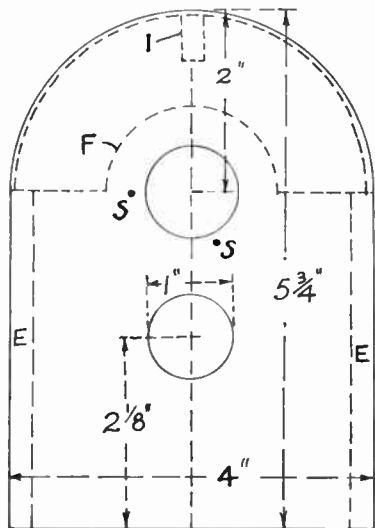

Fig. 3—Dimensions of the front and back
The front and back of the box are identical in size and shape, and the sizes are shown in Fig. 3. Note, however, that one piece—the front—has two openings cut in it as in the diagram, but the back had only a slot cut in it, being located near the top and measuring about 1 in. long by nearly $\frac{1}{4}$ in. wide. Both openings in the front are made 1 in. in diameter,
In Fig. 4 the disc (H) is shown drawn away from the disc, but ready to be attached to it. Now note from Fig. 3 where the two 'stop' screws (S) are to be inserted. They prevent the figure from turning too far in either direction, and when the opening in the front of the box is wholly exposed, the figure should
A final word might be given regarding the bent-wood top of the box. Roughly, the length of piece required will be 6 1/2 ins., and a piece this length should therefore be cut, with a full width of 2 1/2 ins. By cutting the top full in length, it may be neatly trimmed and cut to exactly on top of the two sides of the box (see Figs. 3 and 4). (442)